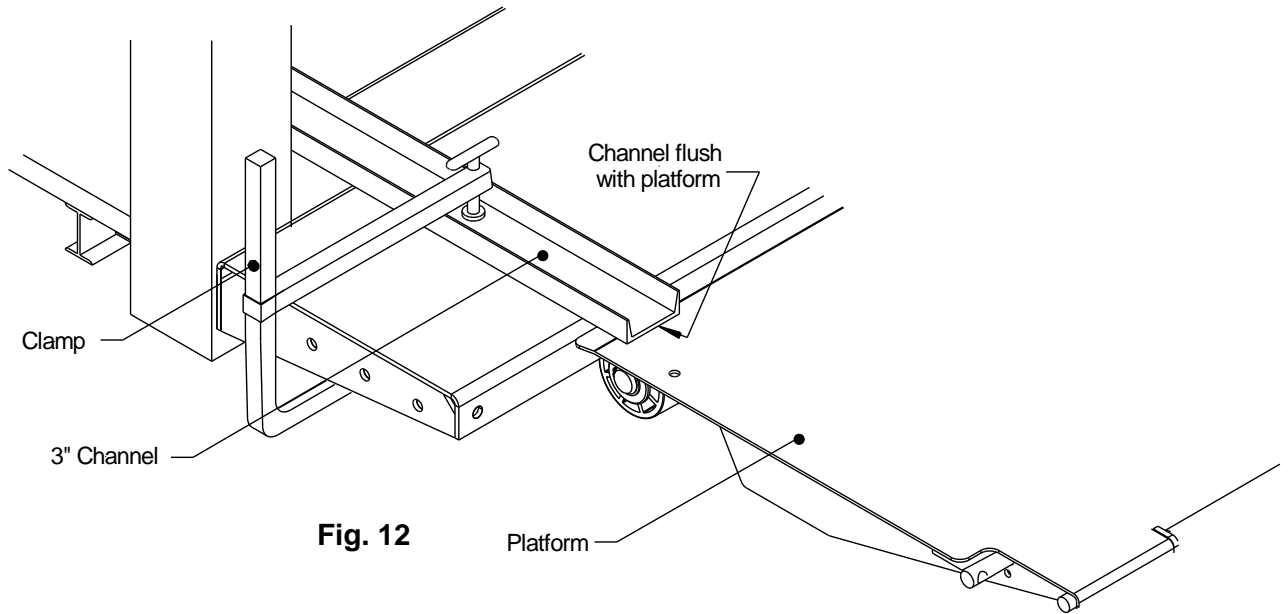

Fig. 12
2. **Raise Platform:** Clamp 3" channels over the bed extension and align the front edge of the platform, to the back edge of the bed extension, **Fig. 12**. Maintain the top of the platform flush to the bed extension (channel).